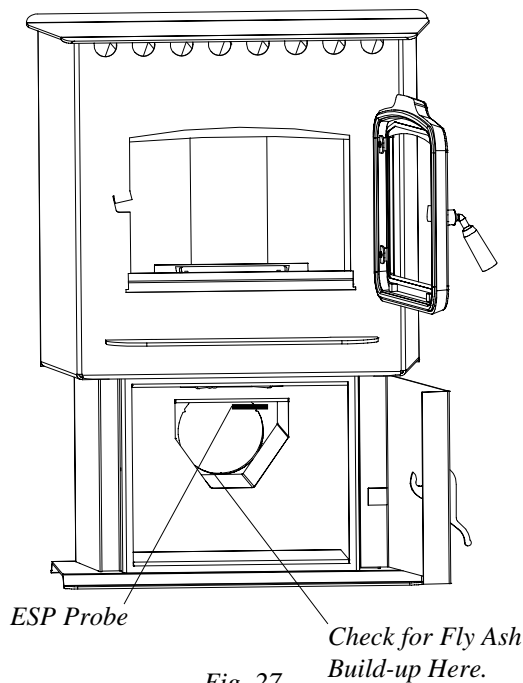

Fig. 27
6. Clean fly ash from flue area shown in fig. 27. Be careful not to damage the ESP Probe.